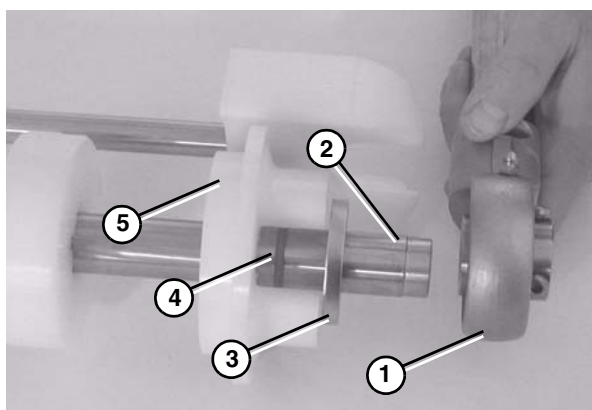

Figure 65
3. Attach the flanged pucks (Figure 65, item 5), the O-rings (Figure 65, item 4), the washers (Figure 65, item 3) and the bearing shaft assemblies (Figure 65, item 1) onto the idler shaft (Figure 65, item 2).